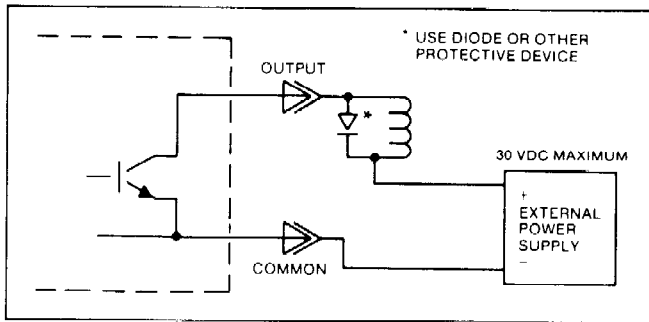

Figure 4-6. Transistor Output With Inductive Load.
- c. If transistors are used with an inductive load, wire per Figure 4-6.